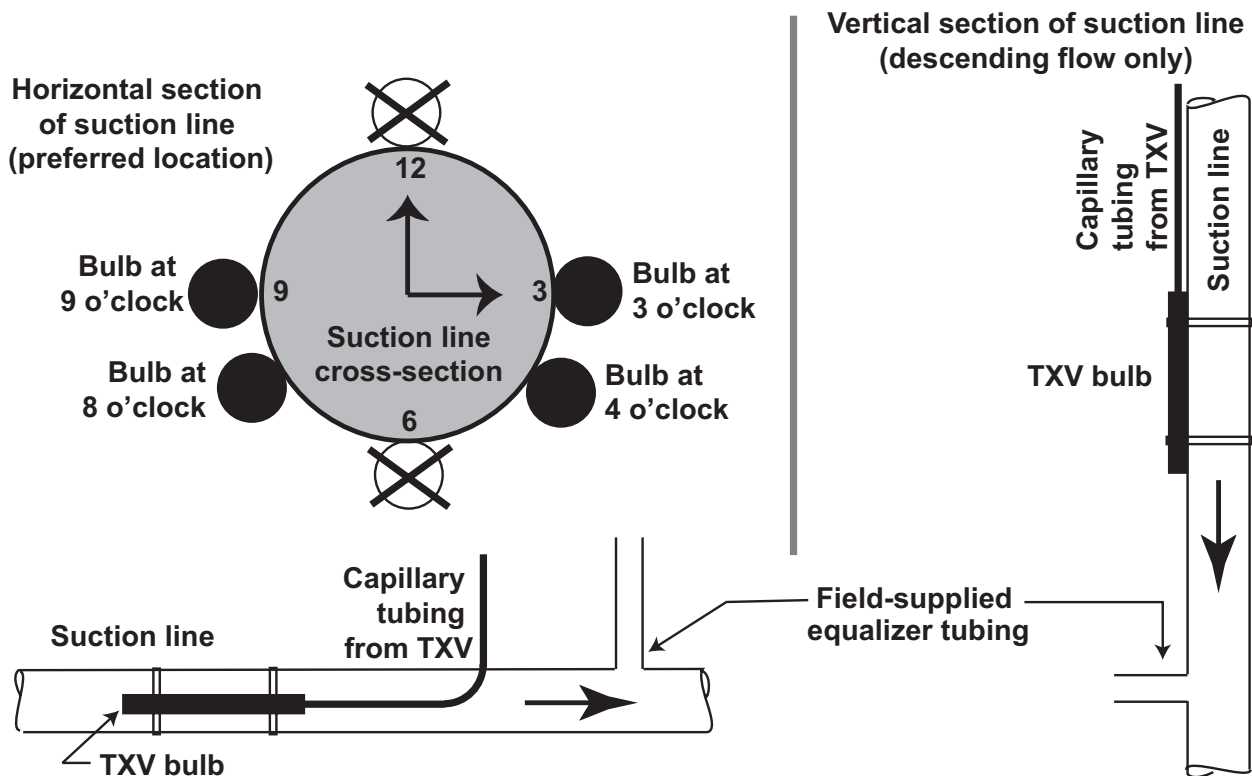

Figure 3. TXV Bulb Installation (Applies to Both Circuits)
- b. Position bulb flat against surface of tubing and orient capillary tube as shown in **Figure 3**. Place bulb on straight horizontal section of suction line as close as possible to evaporator coil outlet. If bulb must be vertical, line must be descending.